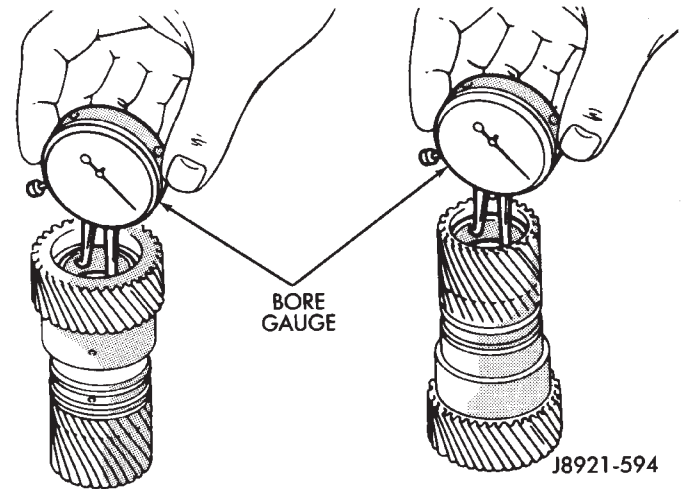

Fig. 266 Checking Sun Gear Bushings
(7) Measure inside diameter of sun gear bushings with bore gauge or inside micrometer (Fig. 266). Maximum allowable diameter is 27.08 mm (1.0661 in.). Replace sun gear if bushing inside diameter is greater than specified.